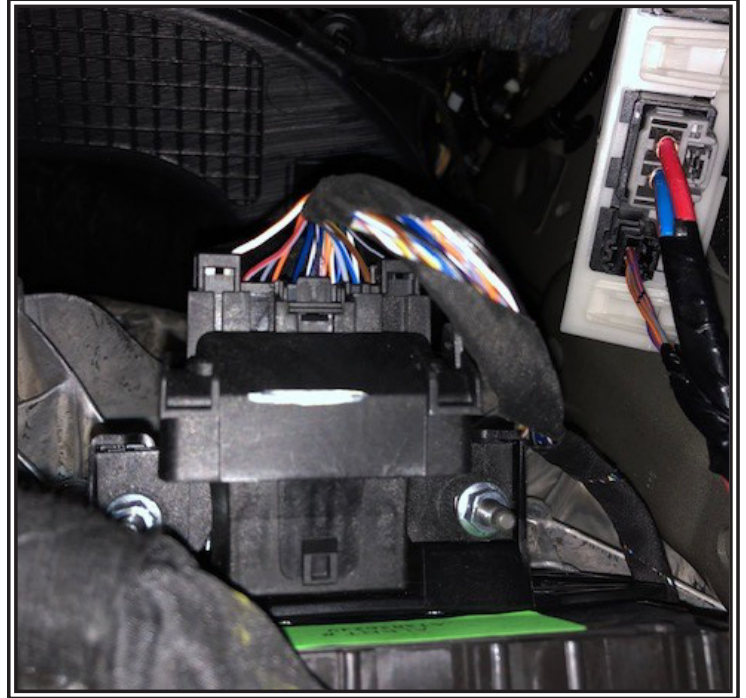

Figure 15
Step 1. Locate the gateway connector located behind the vehicle's OBDII connector as shown in Figure 15.